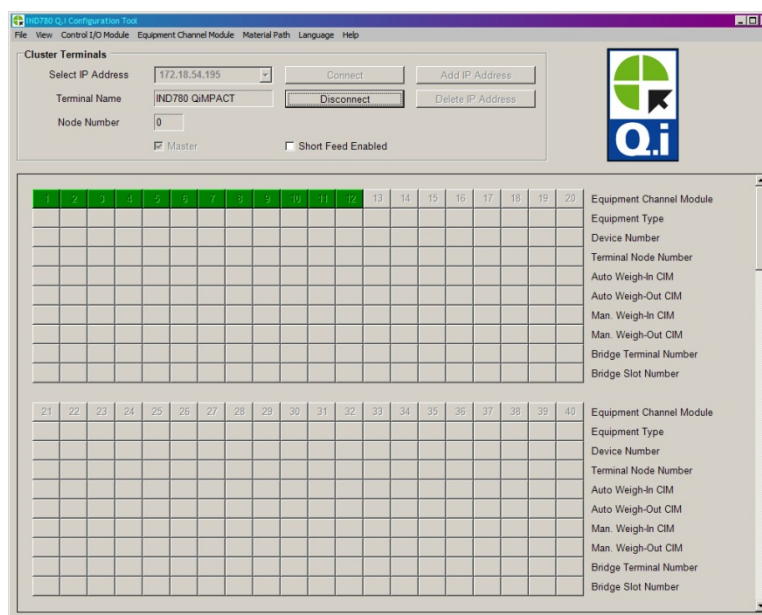

Figure 2-4: Q.i Configuration Tool Main Screen, Connected
3. Click on the **Connect** button to establish communication with the terminal. Once the terminal is connected, the Configuration tool's screen will update and resemble the screen shown in Figure 2-4. All menu bar items will now be active and the Terminal Name and Node Number will now be displayed. Each configured Equipment Channel Module (ECM) column is populated with module numbers.